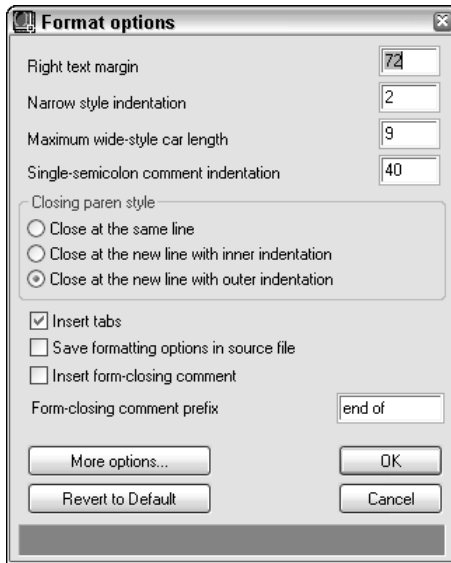

Figure 35-8: Use the Format Options dialog box to format margins and indentation in the Visual LISP editor.
- ♦ **; Single semicolon:** Visual LISP indents a comment with one semicolon by 40 spaces, by default. Choose `Tools` ⇨ `Environment Options` ⇨ `Visual LISP Format Options` to open the `Format Options` dialog box, shown in Figure 35-8, and change this value if you want. Use this type of comment for running comments at the right side of your code. Because they're indented, they stand out from the body of your code.